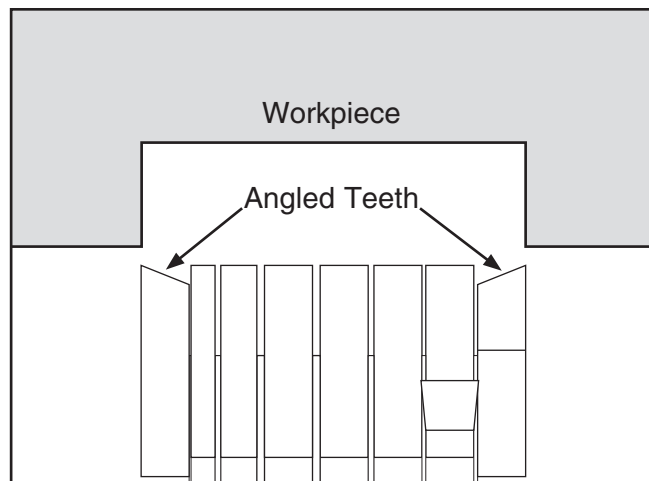

Figure 2. Correct position for outside blades.
The outside blades of this 30 tooth dado set feature five sets of teeth. Each of these sets consist of five angled teeth and a flat tooth. The angled teeth shown in **Figure 2** cut the wood fibers cleanly to prevent splintering and chipping at the edge of the dado and the flat teeth cut the flat bottom of the dado. Cutting a dado requires at least a 1½ HP table saw. Do not use this set in a portable table saw, a miter saw, or a circular saw.
- Slide the right outside blade over the arbor with the teeth facing toward the operator and the point of the angled teeth on the outside of the dado stack as shown in **Figure 2**.